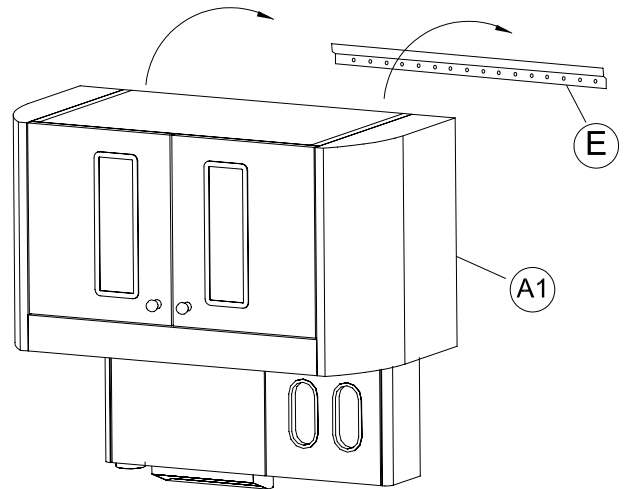

FIGURE 4A
Hang the cabinet (A1) onto the z-bar (E) by placing cabinet against the wall above the z-bar then sliding down the wall until the hanger clips on the back of the cabinet snag the z-bar. See Figure 4A